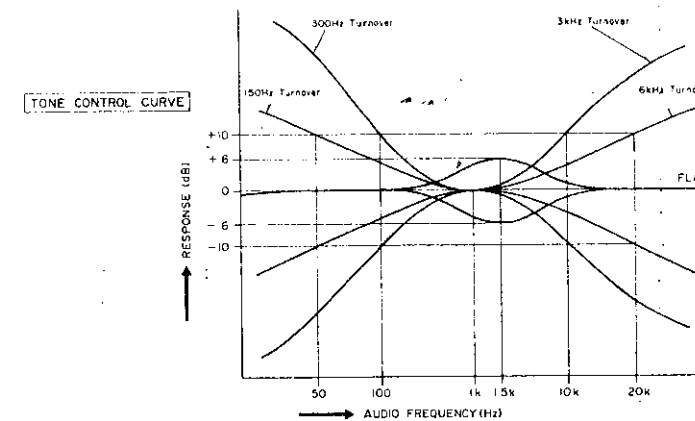

Figure 10
STEP 1 Check BASS Action at 100 Hz and 50 Hz. (Figure 10) (Turnover switch: 100 Hz — 300 Hz, 50 Hz — 150 Hz)
STEP 2 Check TREBLE Action at 10 kHz. (Figure 10) (Turnover switch: 10 kHz — 3 kHz, 20 kHz — 6 kHz)
STEP 3 Check MIDRANGE Action at 1.5 kHz. (Figure 10)